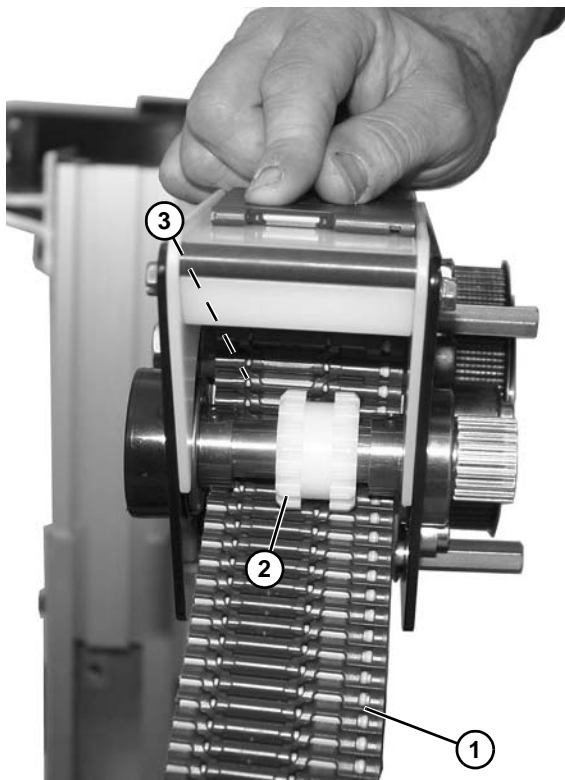

Figure 158
6. Guide belt (Figure 158, item 1) through idler assembly with belt routing under gear (Figure 158, item 2) and over wear tube (Figure 158, item 3).